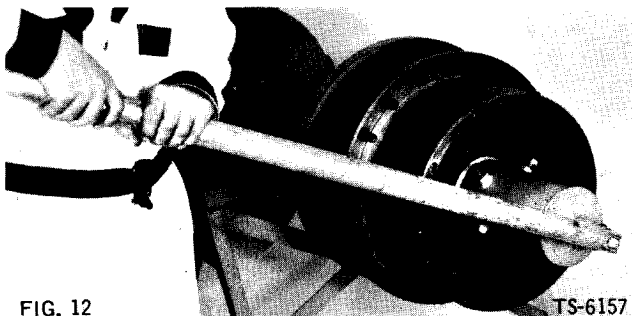

FIG. 12
12. Remove outside spindle nut, nut lock, and inside spindle nut (Fig. 12).